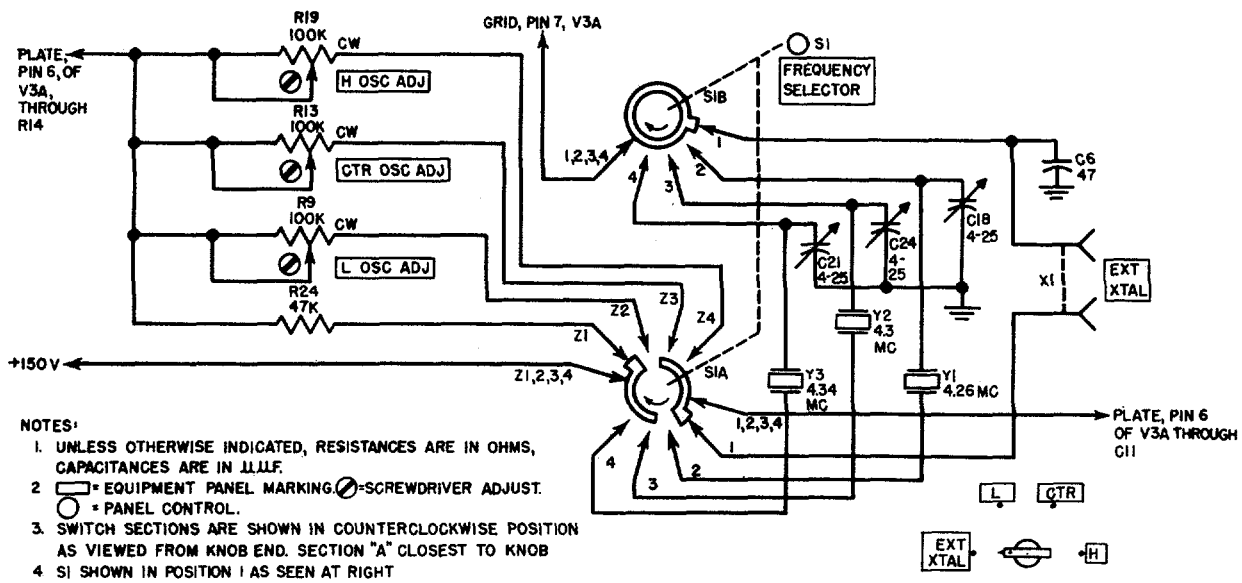

Figure 3. FREQUENCY SELECTOR switch S1.
(fig. 3)
i. *EXT XTAL TEST*. This position makes the same electrical connections as are made in the CAL LEVEL position (c above) but through different switch contacts. The output of the RF level detector is connected through contact 9 of section S2C, rear, to the input grid of vtm bridge V7. Crystals inserted in the MXT XTAL socket (fig. 3), X1, are checked in this position.